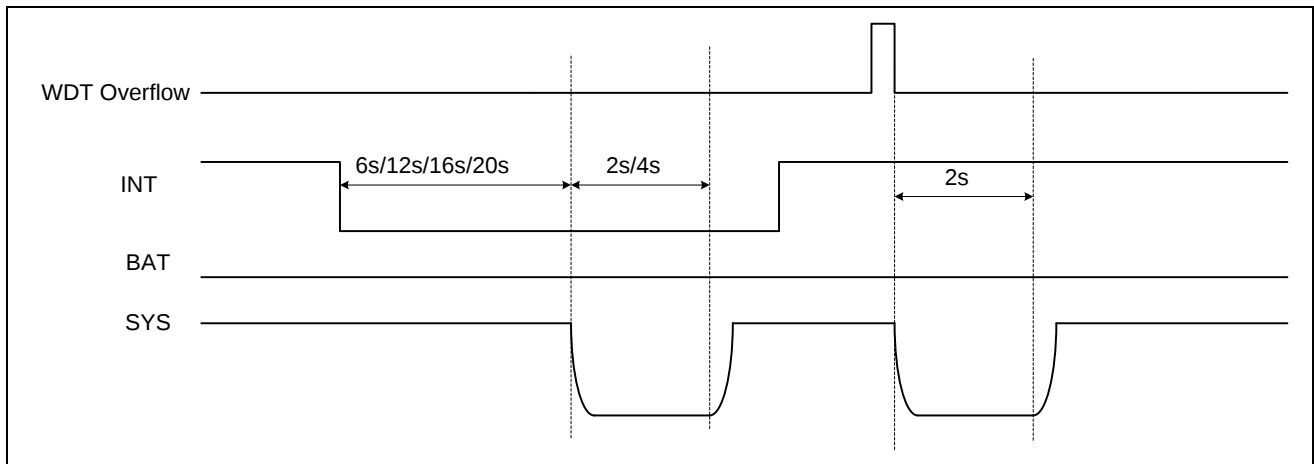

Figure 10. System Reset Function Operation Profile
1) Once the logic at INT is set to low for more than 6s/12s/16s/20s (T_{RST_DEL} ,Reg1A[2:1]), the SYS is disconnected from the system by turning off the LDO MOSFET and the BAT MOSFET. At the same time SYS will be discharged by internal discharge circuit, the reset time is 2s/4s (Reg1A[0]), then the LDO MOSFET and the BAT MOSFET will work again, SYS will have an output. (Figure 10)
3) When VIN receives voltage data Reg22[3:0]=0x05 (COMT_RX) by serial communication, see following wave, ET9563 will start the delay timer. The timer can be set by REBOOT_ENTER_TIME, Reg1A[7:6] (0s/1s/2s/4s). When the timer expires, ET9563 will turn off the LDO MOSFET and the BAT MOSFET, SYS will pull down to GND for 2s, then the LDO MOSFET and the BAT MOSFET will work again, SYS will have an output. (Figure 10)